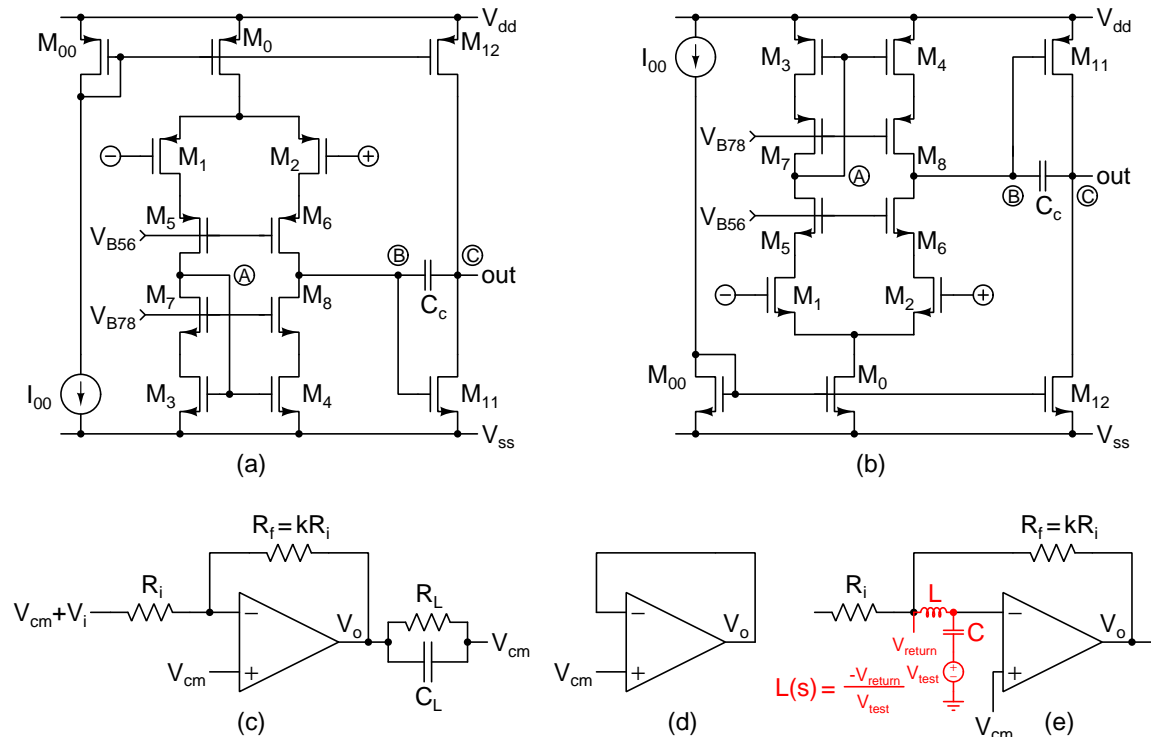

Figure 7.1: Problem 7.1.
7.1. Fig. 7.1 shows two-stage opamps. The first stage is a telescopic cascode stage. (a) uses a pMOS differential pair in the first stage and an nMOS common-source amplifier in the second stage. (b) uses an nMOS differential pair in the first stage and a pMOS common-source amplifier in the second stage.
Realize the inverting amplifier (Fig. 7.1(c)) that you designed in assignment 4 using these opamps. You will be using the same component values here. You will also need the results of MOS characterization to determine the current density.
For simulating the operating point, place the opamp in unity negative feedback as shown in Fig. 7.1(d) or simulate it in open loop with nodes A, B, and C shorted to each other and both inputs at  $V_{cm}$ .
- Loop gain magnitude (dB) and phase (degrees). The unity loop gain frequency and phase margin must be marked. Break the loop as shown in Fig. 7.1(e) to simulate the loop gain. Use large  $L$ ,  $C$ , e.g.,  $L = 10^6$  H,  $C = 1$  F. The frequency range should be from  $\sim 0.1 \times$  dominant pole to where the loop gain is  $\sim -20$  dB.